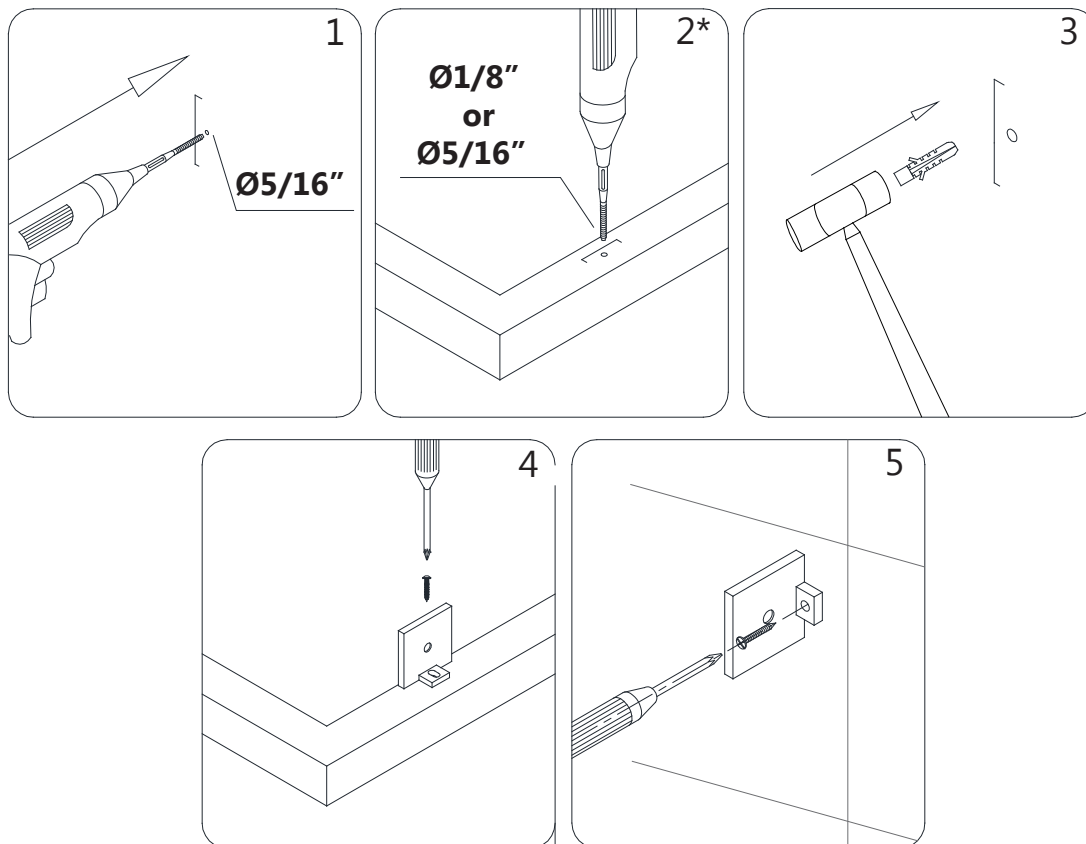

Fig 4
*Drill a hole into the threshold using a $\text{Ø}1/8''$ drill bit for an acrylic base (or $\text{Ø}5/16''$ and an anchor for tile) and mount the remaining **Wall Bracket (#19)** to the threshold using the **ST4.2x40 Countersunk screw (#17)**. **(Fig 4)**